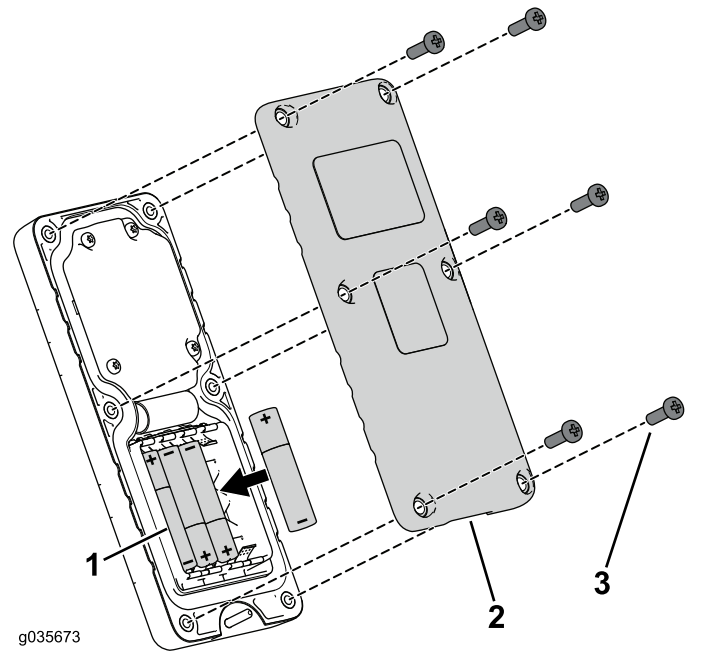

Figure 27
2. Install the batteries into the terminal cradle observing proper polarity (Figure 27).
3. Replace the cover and secure it with the 6 screws removed previously (Figure 27) and torque them to 1.5 to 1.7 N·m (13 to 15 in-lb).